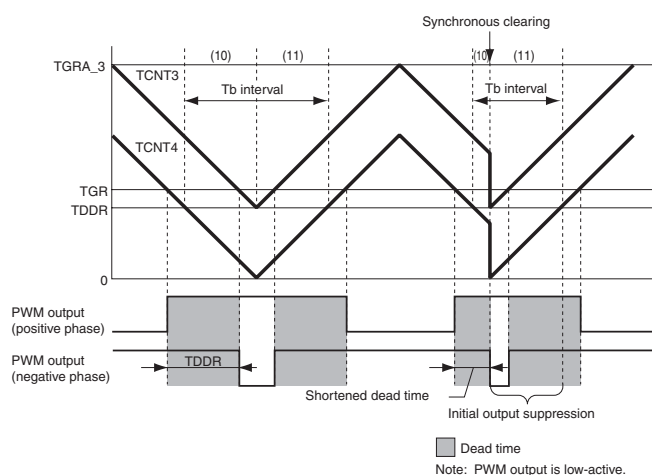

Figure 1 Condition (1) Synchronous Clearing Example
Condition (1): When synchronous clearing occurs in the PWM output dead time interval within initial output suppression interval (10) (figure 1).